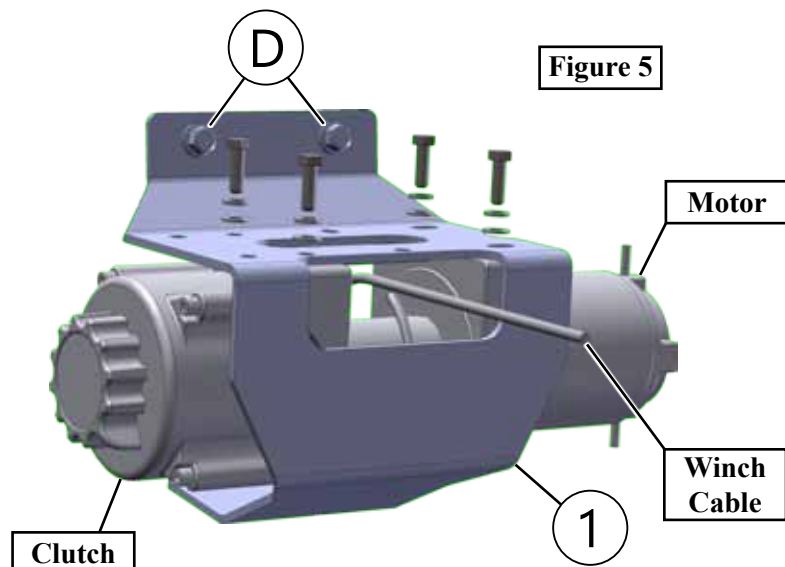

Figure 5
4. Install winch into winch mount (1) using hardware supplied with winch and routing winch cable as shown in **Figure 5**.
Note: Winch will be installed upside down on the winch mount. Winch cable will need to come out between the winch mount and the spool of the drum (Bottom Of The Winch) as shown in Figure 5.